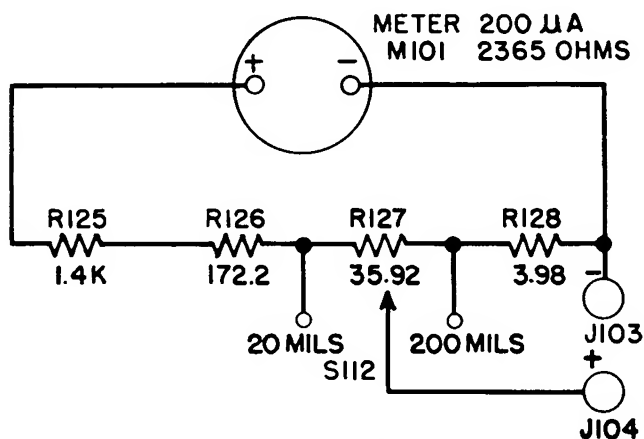

Figure 2-13. Simplified Milliammeter Circuit
(1) A standard ac voltage is applied across the capacitor connected to J103 and J104, through resistor R135 or R136, depending on the range selected by MASTER switch S112.
(2) The voltage drop across the series resistor, either R135 or R136, is measured by the meter, which is calibrated directly in microfarads.
d. MILLIAMPERES. (See Figure 2-13)
(1) The milliammeter, as shown in Figure 2-13 is of the conventional type and will measure up to 200 mls in two ranges, 0-20 and 0-200.
(2) To avoid possible damage to the meter always use the highest range first.